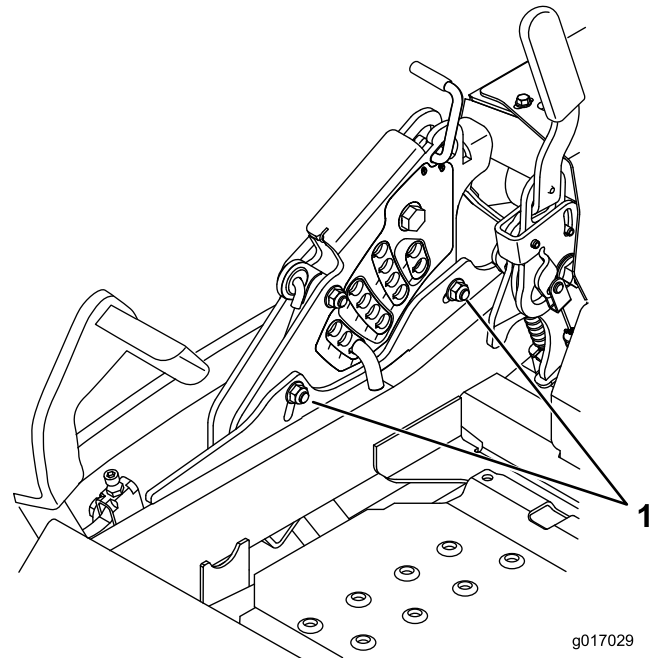

Figure 91
12. To adjust the single point system, loosen the two bolts at the bottom of the height of cut plate. Refer to Figure 91.
- Tighten the two bolts at the bottom of the height of cut plate (Figure 91). Torque to 27-33 ft-lb (37-45 N-m).